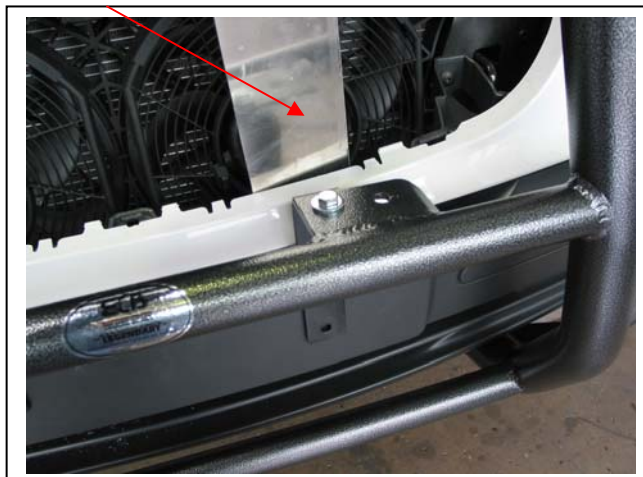

Figure 18 – Passenger side shown
16. Using L brackets as a guide, drill two 10mm holes through bumper cover and right through bumper cover support. **NOTE:** Place flat metal sheet or similar on inside of bumper cover support so drill bit does not damage fan/radiator. **See figures 18 and 19.** *Blow all filings clear and treat exposed metal with a rust inhibitor*